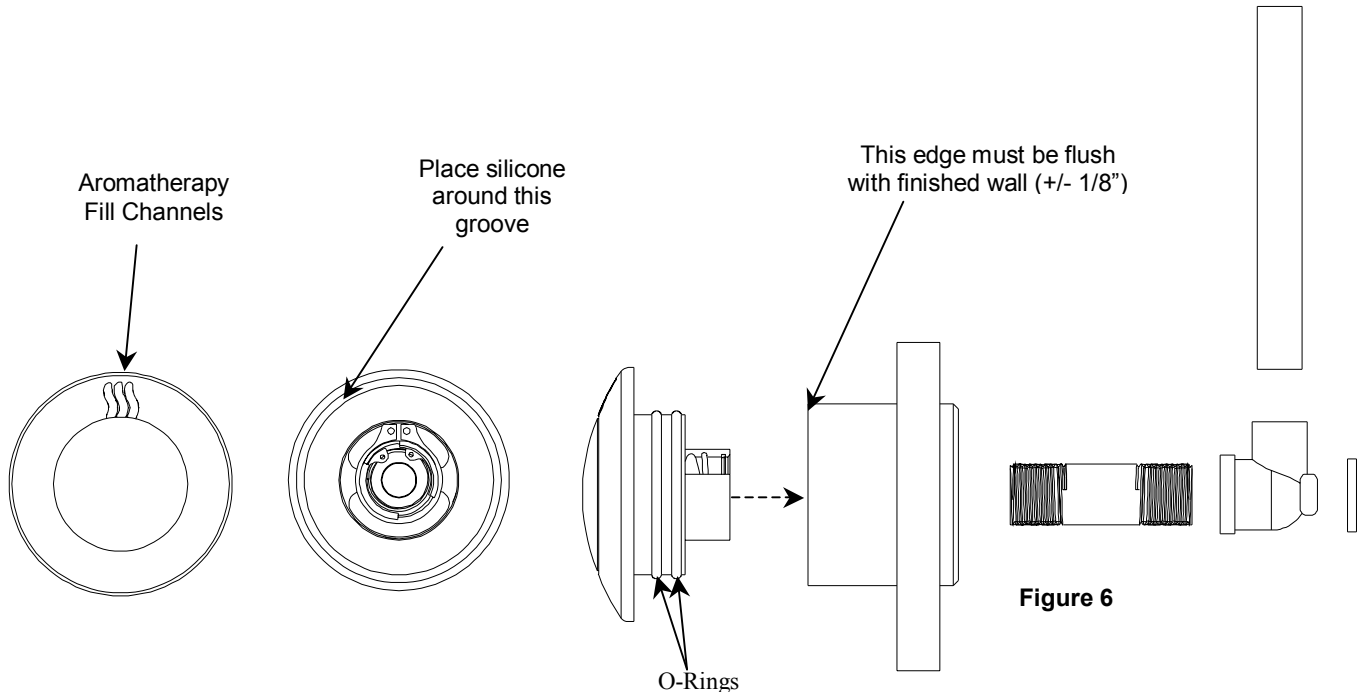

Figure 6
3. Final Installation (steam head): When installing the steam head in to the housing be sure that the aromatherapy fill channels are facing upwards see figure 6 To ensure that no moisture gets behind the steam head and into the wall, place a generous bead of waterproof silicone around the steam head, use the machined groove as a guide. Be sure that within the housing there isn't any debris, and the two O-rings are in place on the steam head. Slide the steam head into the housing until the steam head is tight against the finished wall. You may need to wipe away any excess silicone. Use figure 4 as a reference to these steps.